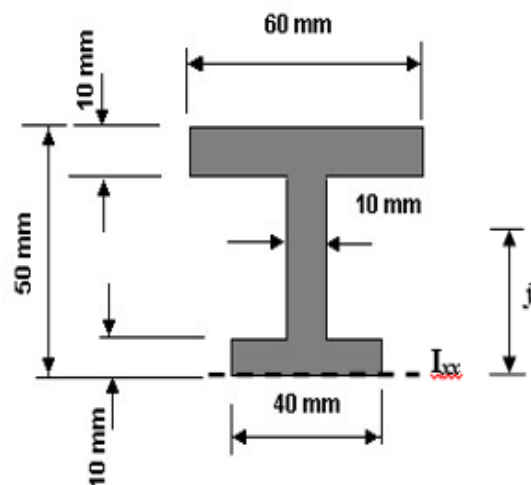

Figure 3(b) / Rajah 3(b)
- b) Figure 3(b) shows the cross sectional area of the beam for the simply supported beam. Calculate the Natural Axis position and Moment of Inertia of the beam.